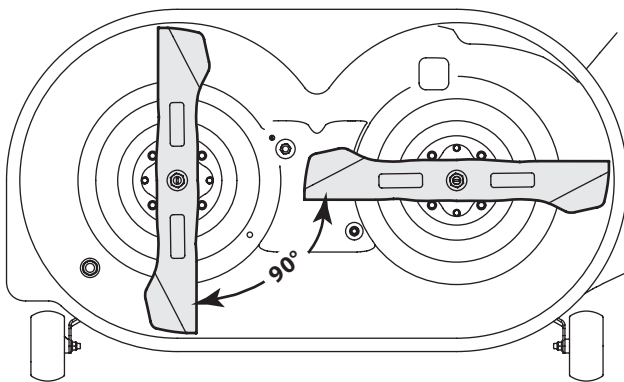

Figure 8.21
7. To install the timing belt turn the blades 90° apart. See Figure 8.21.